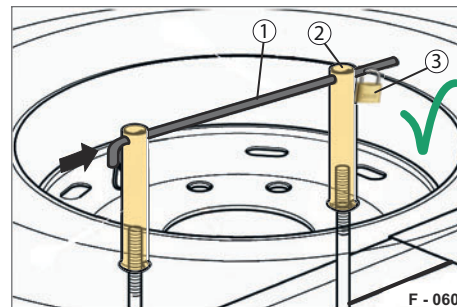

Fig. 94 Spare wheel secured
- ▶ Screw the tube nuts (Fig. 94/2) to the hook bolt.
- ▶ Tighten the two tube nuts (Fig. 94/2) by hand.
- ▶ Tighten the tube nuts with the tommy bar (Fig. 94/1) as a lever (at least 5 rotations).
- ▶ Put the tommy bar (Fig. 94/1) through both tube nuts (Fig. 94/2).
- ▶ Attach the padlock (Fig. 94/3). The spare wheel is secured against falling out.